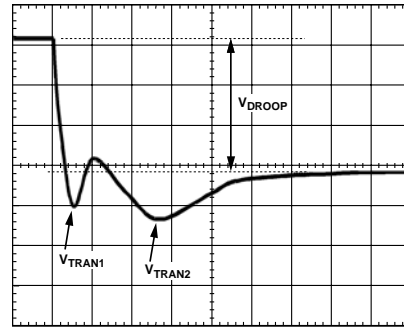
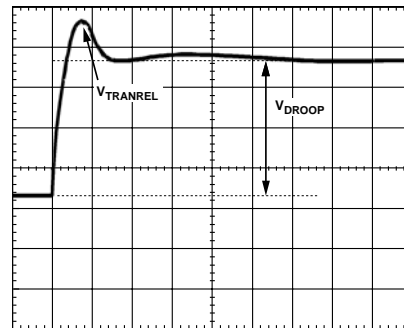

Figure 16. Transient Setting Waveform
Figure 17. Transient Setting Waveform
19. With dynamic load still set at maximum step size, expand scope time scale to see 2 $\mu\text{s}/\text{div}$ to 5 $\mu\text{s}/\text{div}$. The waveform may have two overshoots and one minor undershoot (see Figure 16). Here, V_{DROOP} is the final desired value.
21. For load release (see Figure 17), if $V_{TRANREL}$ is larger than V_{TRAN1} (see Figure 16), there is not enough output capacitance. You will either need more capacitance or have to make the inductor values smaller. (If you change inductors, you will need to start the design over using the spreadsheet and this tuning procedure.)